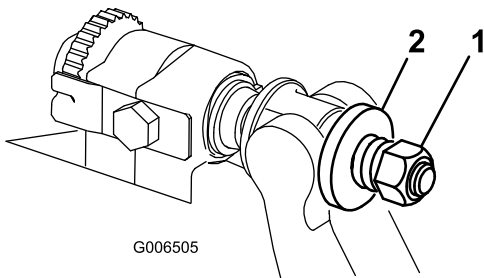

Figure 32
4. Tighten the spring-tension nut until the spring is collapsed, then back it off 1/2 turn (Figure 32).
10. Tighten the nut on each bedbar adjuster assembly until the compression spring is fully compressed, then loosen the nut 1/2 turn (Figure 32).